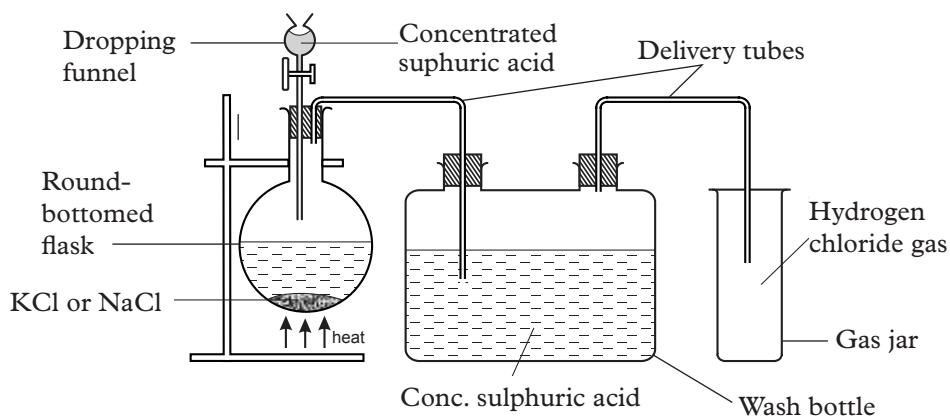

Fig. 4.10: Laboratory preparation of hydrogen chloride
1. Place sodium chloride in a round-bottomed flask and set up the apparatus as shown in figure 4.10.